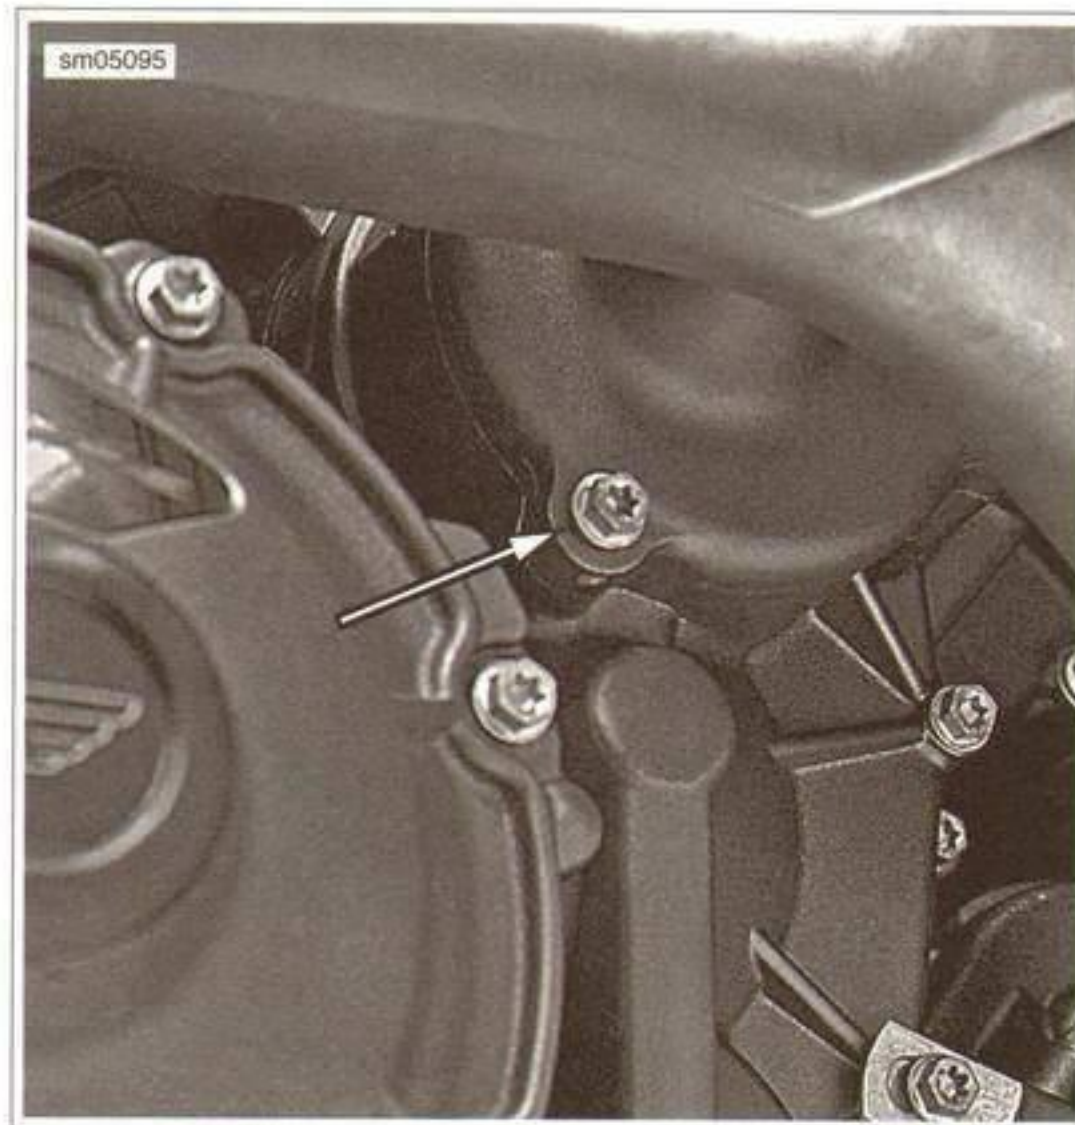

Figure 5-9. Coolant Drain Screw
7. See Figure 5-9. Remove the lower screw with the brass washer from the water pump housing.